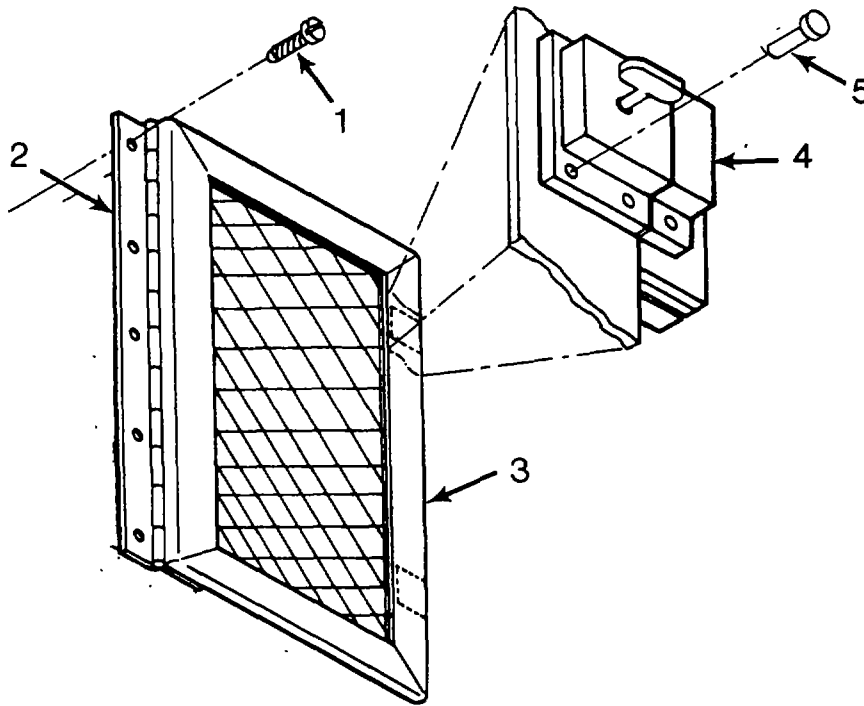

Figure 4-11. Sidewall Vent Assembly
a. Repair by replacing housing sidewall vent assembly. (See figure 4-11.)
(1) Remove five self-tapping screws (1) along top of hinge (2) and remove vent assembly (3).
(2) Align replacement vent assembly hinge (2) along hinge line and secure in place with five self-tapping screws (1).
b. Repair by replacing sidewall vent assembly door latch (4). (See figure 4-11.)
(1) Using an electric drill, drill out rivets (5) in latch (4) and remove latch (4).
(2) Install replacement latch (4) using blind riveter and pop rivets.